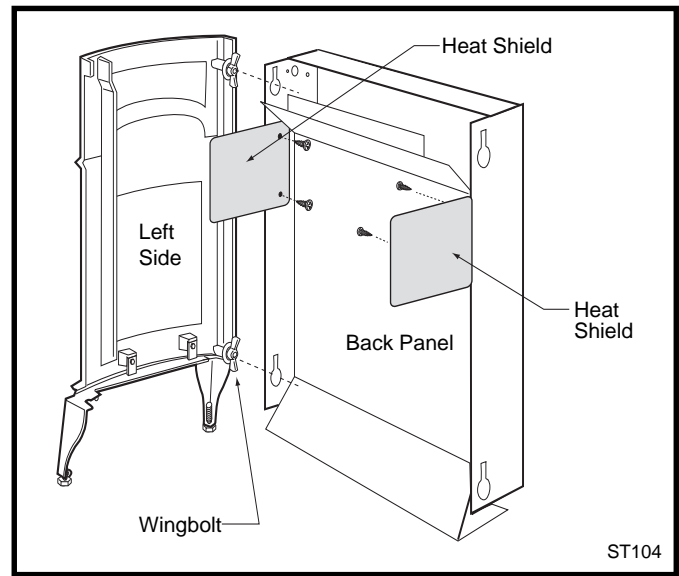

Fig. 3 Secure Left Side to the Back Panel.
1. Assemble side heat shields to both sides of the back shroud using two (2) sheet metal screws per side. (Fig. 3) Heat shields are found in the Owner's Manual bag assembly.
2. Attach the Back Panel to the Left Side Plate by aligning the key holes in the shroud with the bolts in the Side. (Fig. 3) Slide the shroud panel downward to engage it behind all three washers on the side plate and then tighten the upper and lower wingbolt.